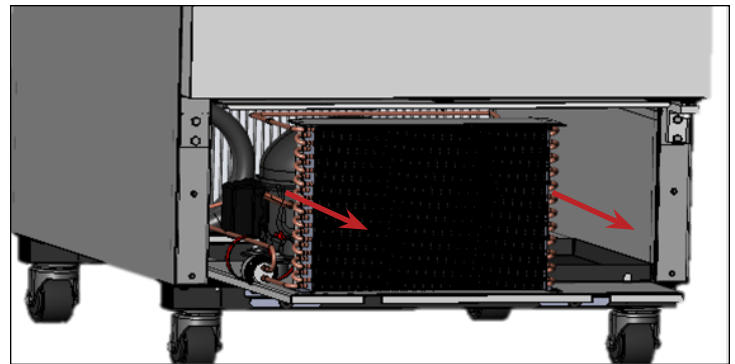

Fig. 6. Carefully slide the condensing unit out.
7. Carefully slide the condensing appliance out (tubing connections are flexible). See fig. 6. Gently blow compressed air or CO₂ through the coil until it is clean.